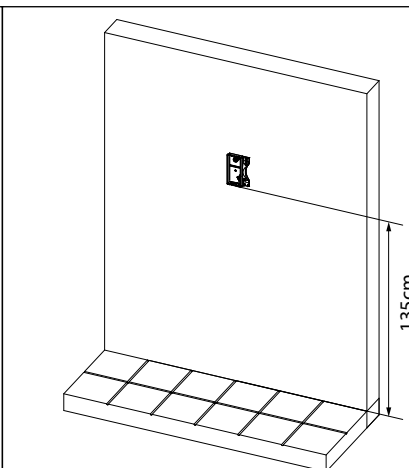
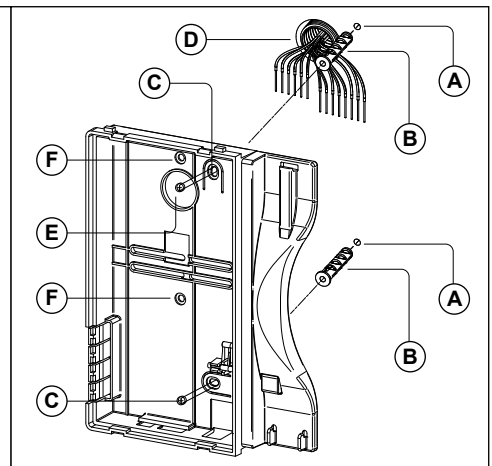

Fig. 2
Fig. 3
2. Put the base of the unit on the wall at approx 135cm from the finished floor to mark the points for the fixing holes "A" (**Fig. 2**) remembering that the wires "D" (**Fig. 3**) must be fed through the hole "E" (**Fig. 3**). If you use the flush mounting box 503, embed it into the wall vertically at approx. 140cm from the finished floor and the base.
3. Following **Fig. 3**, make the holes "A", insert the wall plugs "B" and fix the base with the screws "C" feeding the wires "D" into the hole "E". If you have used the box 503, fix the base to the wall through the holes "F" using the screws "C".